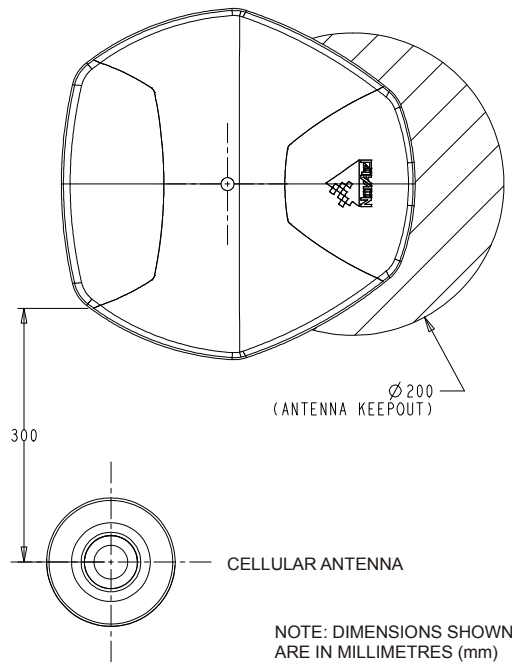

Figure 10: Cellular Antenna Placement
2. Ensure the cellular antenna is installed at least 30 cm away from the SMART-MR15, as shown in *Figure 10*. GNSS positioning accuracy may be degraded if this is not observed, particularly for operation in the EU “1800 MHz” band.
3. Ensure the cellular antenna is installed at least 20 cm away from the *Bluetooth* antenna area of the SMART-MR15, as shown in *Figure 10*.